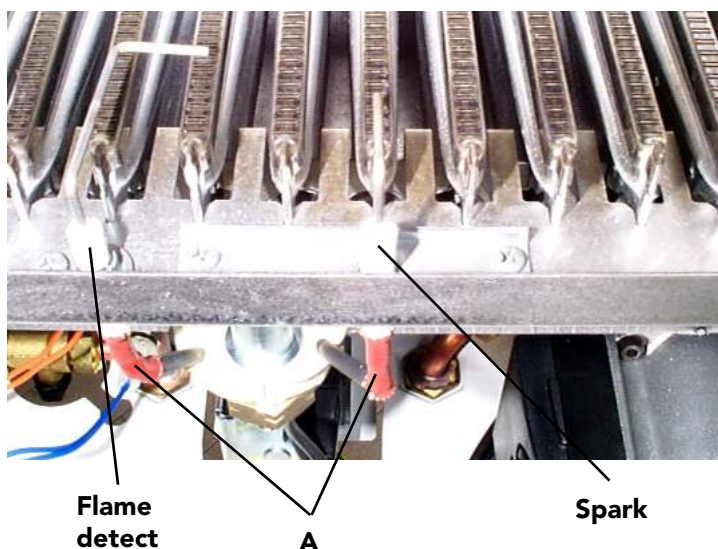

Fig. 41
(fig. 41)
- Identify electrode from fig. 41